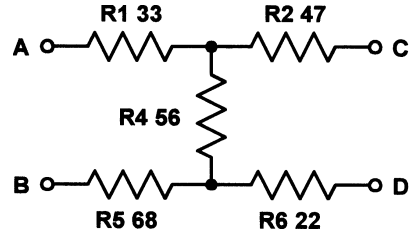

Figure A2.7
18. Determine the resistance looking into the network shown in Fig. A2.7, (a) with C and D open-circuit and (b) with C and D shorted together. [Page 25]